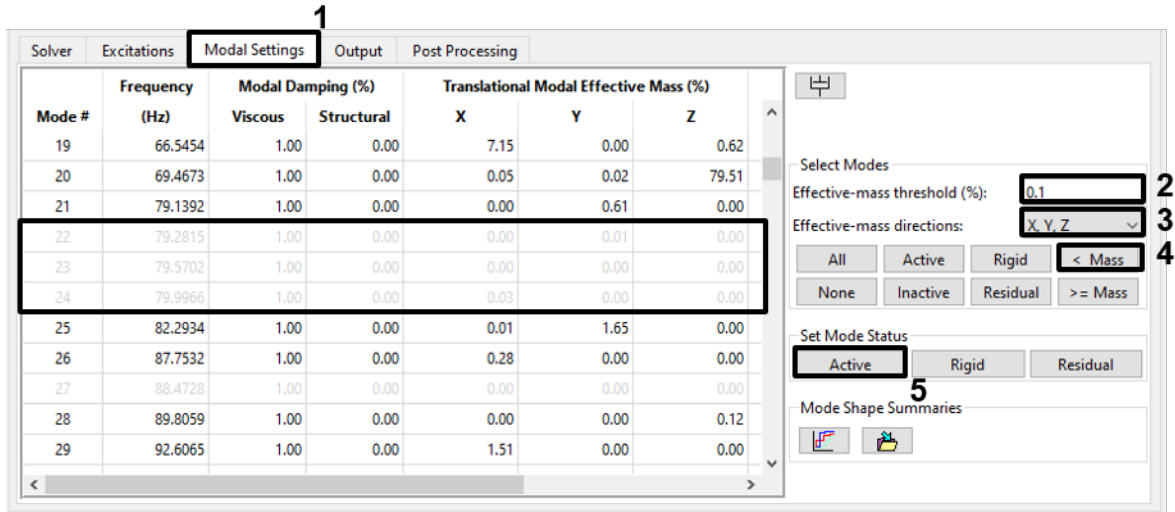

Figure 4-72. Select modes below 0.1% modal effective mass for all translations.
2. On the *Modal Settings* tab, in the *Select Modes* panel, set the *Effective Mass Threshold* to 0.1 and the *Effective Mass Directions* to X, Y, Z. Click the **< Mass** button to select the modes whose effective mass is less than that threshold for all the translations (Figure 4-72).